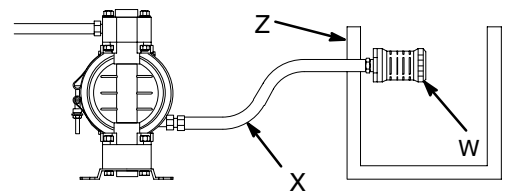

Fig. 2
A bleed-type master air valve (B) is required in your system to relieve air trapped between this valve and the pump. See Fig. 2. Trapped air can cause the pump to cycle unexpectedly, which could result in serious injury, including splashing in the eyes or on the skin, injury from moving parts, or contamination from hazardous fluids.
1. Install the air line accessories as shown in Fig. 2. Mount these accessories on the wall or on a bracket. Be sure the air line supplying the accessories is electrically conductive.
- a. The fluid pressure can be controlled in either of two ways. To control it on the air side, install an air regulator (G). To control it on the fluid side, install a fluid regulator (J) near the pump fluid outlet (see Fig. 2).
- b. Locate one bleed-type master air valve (B) close to the pump and use it to relieve trapped air. Read the **Warning** above. Locate the other master air valve (E) upstream from all air line accessories and use it to isolate them during cleaning and repair.
- c. The air line filter (F) removes harmful dirt and moisture from the compressed air supply.
2. Install an electrically conductive, flexible air hose (C) between the accessories and the 1/4 npt(f) pump air inlet. Use a minimum 1/4 in. ID air hose. Screw an air line quick disconnect coupler (D) onto the end of the air hose (C), and screw the mating fitting into the pump air inlet snugly. Do not connect the coupler (D) to the fitting yet.
A fluid drain valve (H) is required in your system to relieve pressure in the hose if it is plugged. See Fig. 2. The drain valve reduces the risk of serious injury, including splashing in the eyes or on the skin, or contamination from hazardous fluids when relieving pressure. Install the valve close to the pump fluid outlet.
1. Use electrically conductive fluid hoses (K). The pump fluid outlet is 1/2 in. or 3/4 in. Screw the fluid fitting into the pump outlet snugly. **Do not overtighten.**
2. Install a fluid regulator (J) at the pump fluid outlet to control fluid pressure, if desired (see Fig. 2). See **Air Line**, step 1a., for another method of controlling pressure.
3. Install a fluid drain valve (H) near the fluid outlet. Read the **warning** above.
Diaphragm failure will cause the fluid being pumped to exhaust with the air. Place an appropriate container at the end of the air exhaust line to catch the fluid. See Fig. 2.
See **Venting Exhaust Air** in Fig. 2. Exhaust to a remote location as follows:
1. Remove the muffler (W) from the pump air exhaust port.
2. Install an electrically conductive air exhaust hose (X) and connect the muffler to the other end of the hose. The minimum size for the air exhaust hose is 3/8 in.(10 mm) ID. If a hose longer than 15 ft (4.57 m) is required, use a larger diameter hose. Avoid sharp bends or kinks in the hose.
3. Place a container (Z) at the end of the air exhaust line to catch fluid in case a diaphragm ruptures. See Fig. 2.